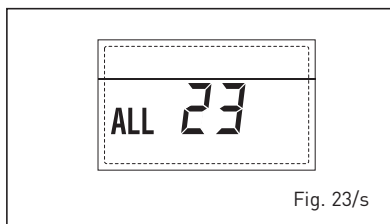

Fig. 23/s
- ANOMALIA GUASTO SONDA COLLETTORE SOLARE S1 "ALL 24" (fig. 23/t)